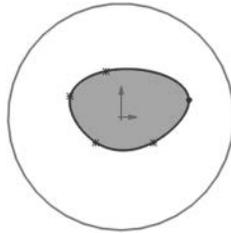

**Figure 4.2**
**Example 4.1** Create the free-form torus shown in Figure 4.2.
**Solution** The torus shown in Figure 4.2 is a variation of the torus (donut shape) feature (No. 2) shown in Table 4.1. While that feature of Table 4.1 is a revolve, the free-form torus shown in Figure 4.2 can only be created as a sweep. The key modeling concept here is to use pierce relations to force the torus cross section (small circle) to conform to the sweep path (large circle) and the guide curve (closed spline), as shown in Figure 4.2. You pierce the small circle to the spline and pierce the center of the small circle to the large circle. These two pierce conditions force the small circle to become “elastic”; that is, it expands and shrinks, as it must always touch the spline and the big circle. Pierce condition is only available to pierce a point to a curve. You cannot pierce two curves. SolidWorks enables the pierce condition in the right context.